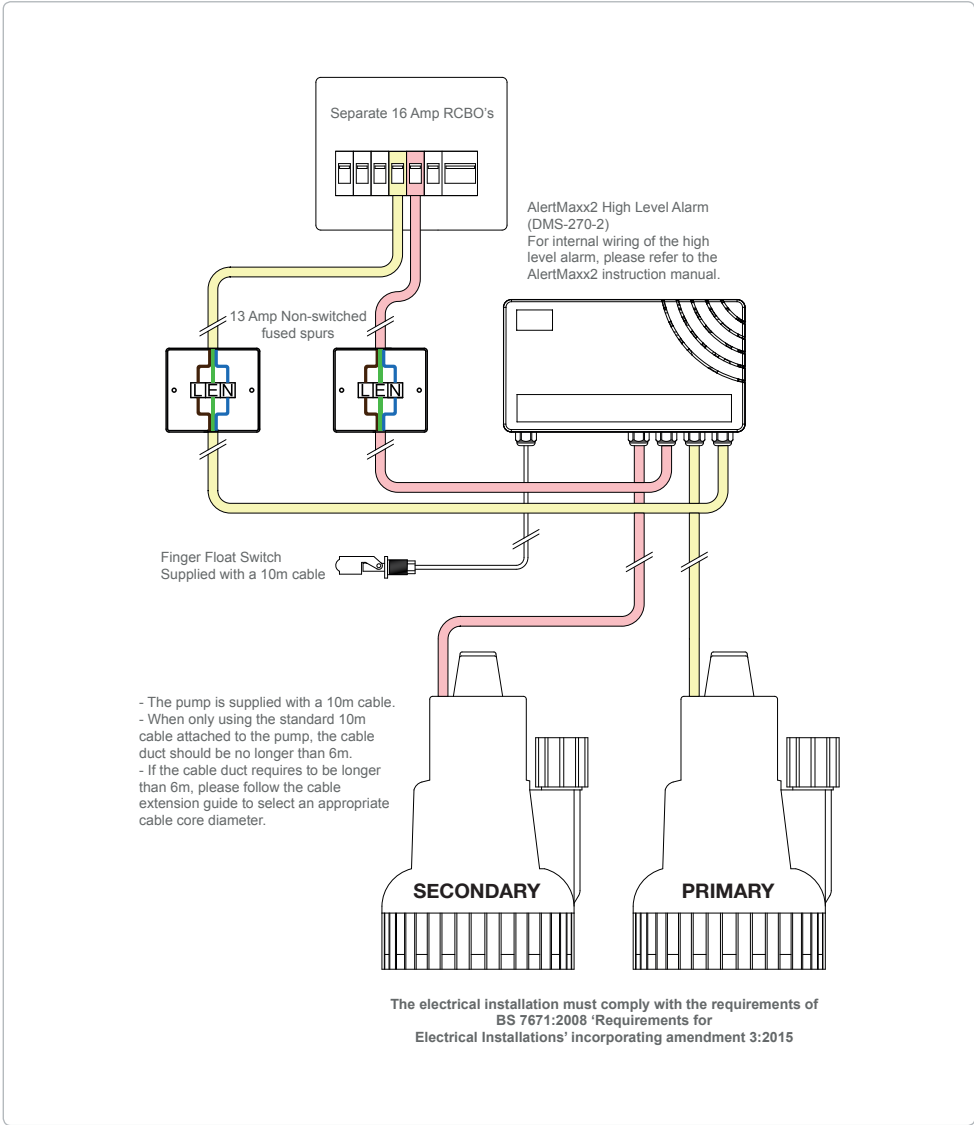
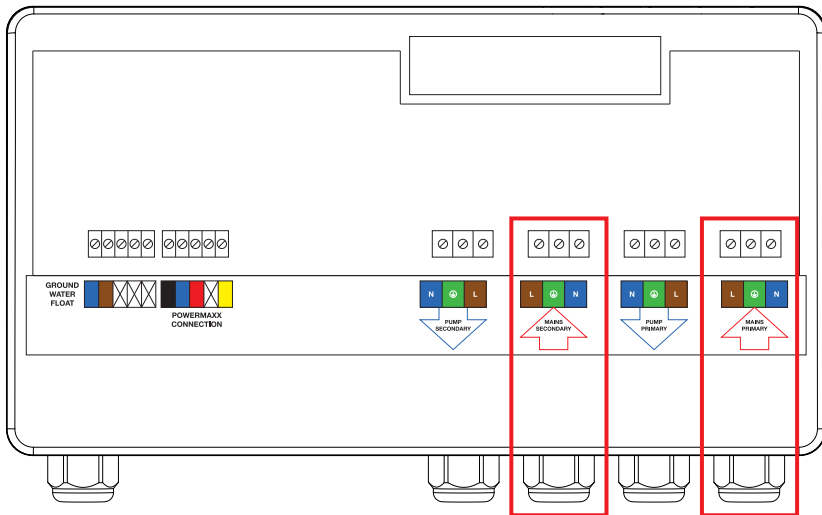

Figure 1. AlertMaxx2 wiring schematic
Figure 2. Connecting mains power
2. Using the wiring schematic (figure 1), feed the mains power cables through the relevant cable glands and connect the power cables to the corresponding terminal blocks on the main PCB (figure 2).